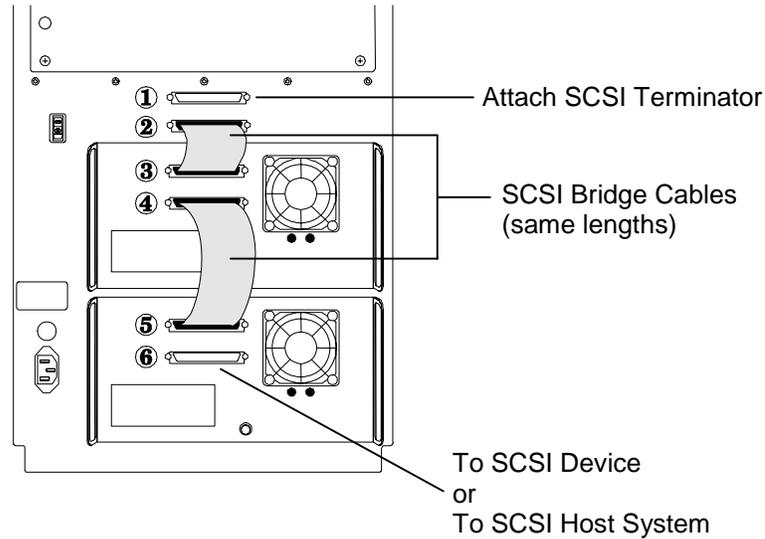

Figure 5-18 SCSI Basic Connection – Model 6220 Shown
Figure 5-18 shows a basic connection scheme, where the changer and both drives are all connected to the same SCSI bus.
1. If no other SCSI device is attached to connector number 1 of Figure 5-18 then install a SCSI terminator at connector 1.